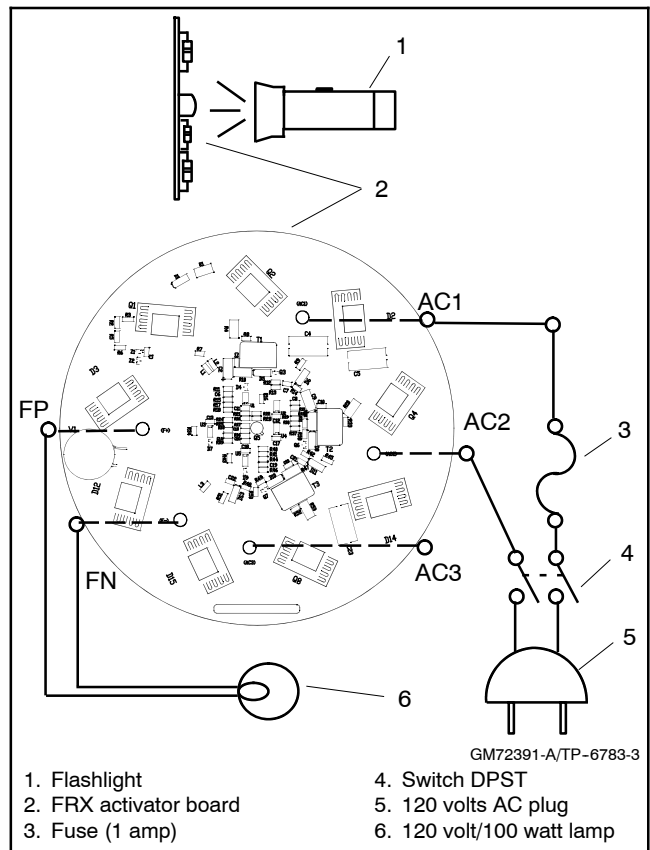

Figure 7-7 FRX Activator Board Test A
1. Connect components as illustrated in Figure 7-7, Test A.